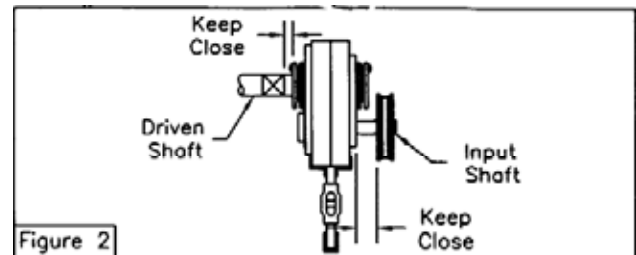

Figure 2
- Install sheave on input shaft as close to reducer as practical. (See Fig. 2)